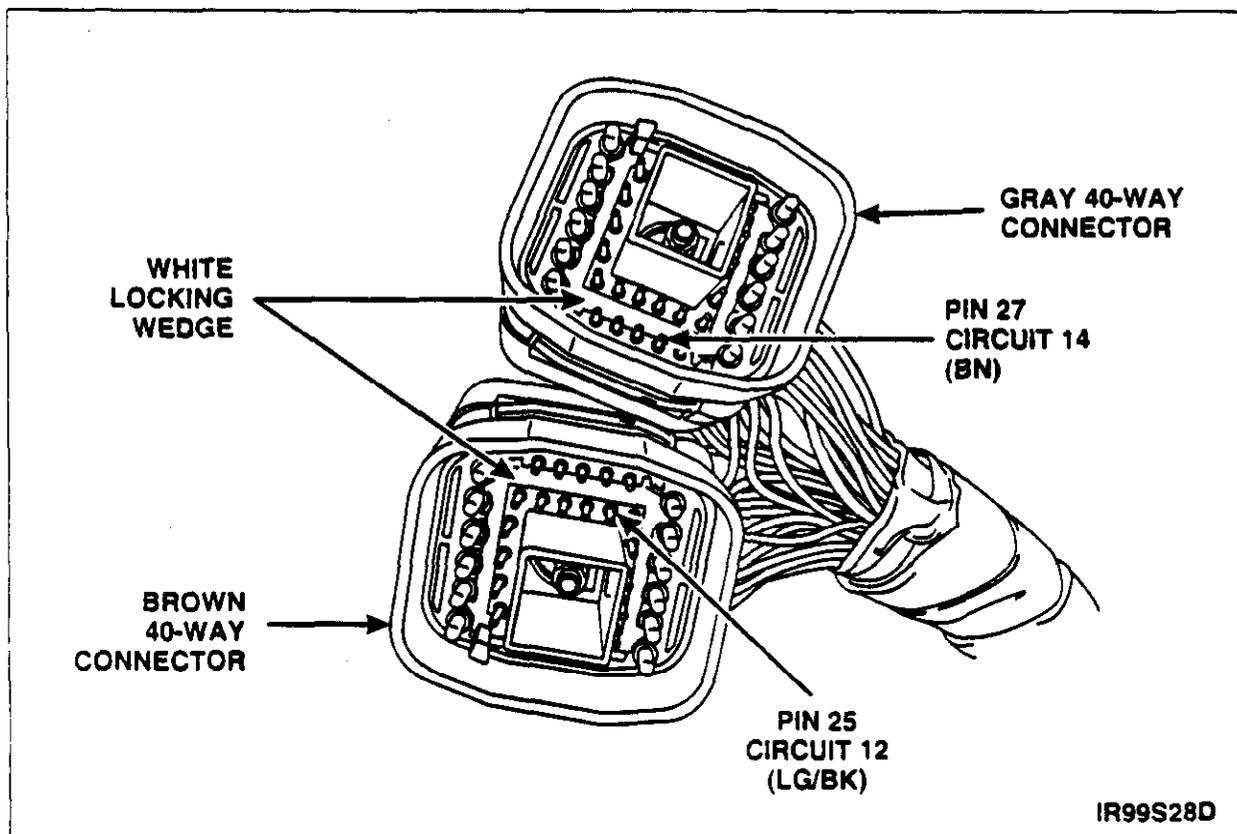

FIGURE 4
8. Remove the white locking wedge from the gray 40-way connector. Release pin 27 on the connector and slide the circuit 14 (BN) wire out of the back of the connector. See Figure 4.
9. Insert the circuit 14 (BN) wire of the *new* relay jumper harness into the back of the gray 40-way connector at pin position 27. Install the locking wedge into the connector. See Figure 4.
12. Remove the white locking wedge from the brown 40-way connector. Release pin 25 on the connector and slide the circuit 12 (LG/BK) wire out of the back of the connector. See Figure 4.
13. Insert the circuit 12 (LG/BK) wire of the *new* relay jumper harness into the back of the brown 40-way connector at pin position 25. Install the locking wedge into the connector. See Figure 4.